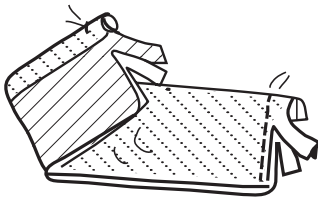

Figure 18
1. Interface the bands and fold in half lengthwise. Sew each end on 5/8-in. seamline from the fold to cut edges. Be sure to secure the stitches. Grade the seams to reduce bulk (Figure 18).